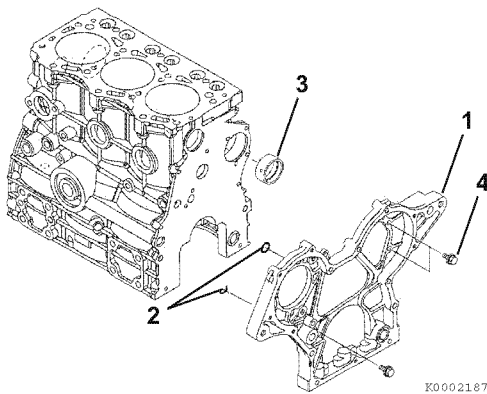

Figure 6-97
1. If removed, install a new camshaft bushing (3, **Figure 6-97**) using the appropriate service tool.
3. Reinstall dowels and new O-rings (2, **Figure 6-97**).
4. Reinstall the gear case (1, **Figure 6-97**). Tighten the bolts (4, **Figure 6-97**) to the specified torque.